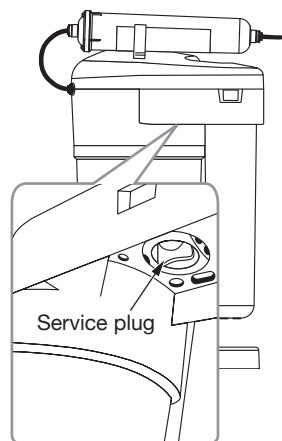

Figure 10
For convenience, the stop buttons on the manifolds have a different color. Install the filter cartridge K3 and service plug (fig. 10) in the order indicated in Table 1.
- Replace the membrane cartridge with the service plug (fig. 10).